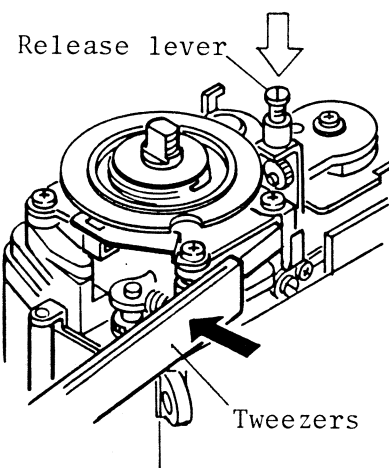

Fig.52
1. Adjustment is made by turning the adjusting screw. (Fig. 52)
(Fig. 52)